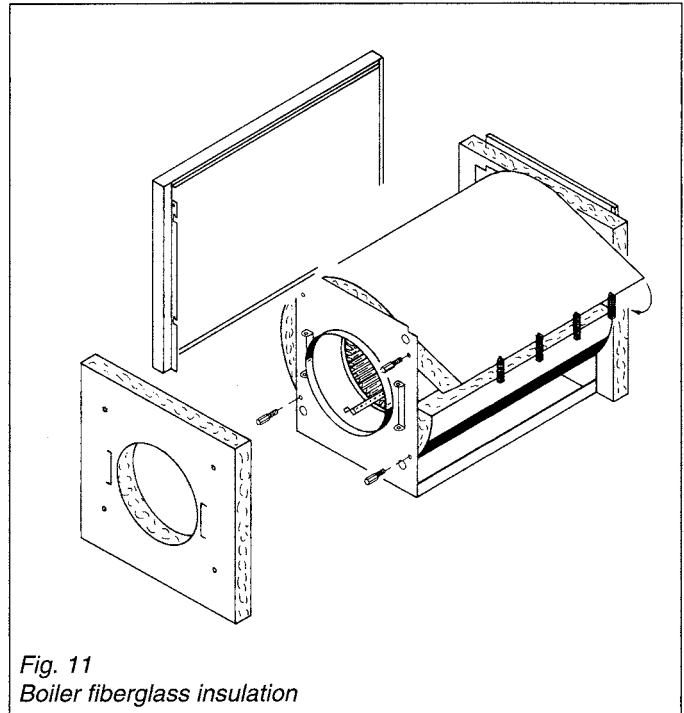

Fig. 11
1. Attach fiberglass insulation to boiler using spring clips (see Fig. 11).